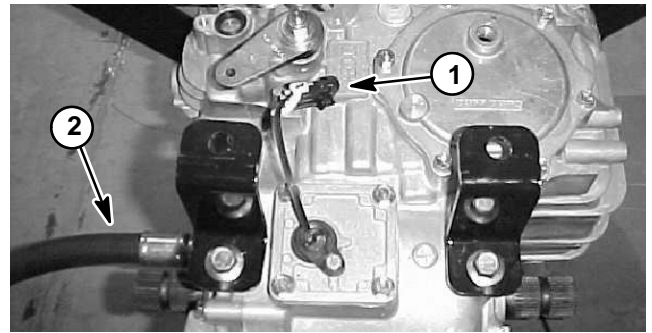
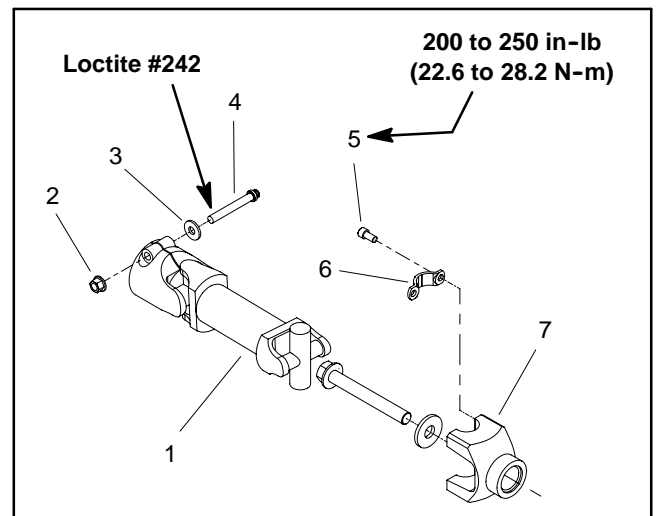

Figure 29
Figure 31
5. Unplug speed sensor connector from machine wire harness (Fig. 29).
8. Disconnect suction hose from transaxle (Fig. 29). Locate, remove and discard suction hose O-ring. Position suction hose away from transaxle.
10. Remove two (2) R-clamps that secure LH parking brake cable to front transaxle mount.
11. Remove the straps securing driveshaft bearing cross to the end yoke at both rear wheel hubs (Fig. 31).
5. Secure transaxle to machine by installing and tightening four (4) flange nuts onto cap screws.
- A. Tighten the strap bolts to secure driveshaft bearing cross to the end yoke at wheel hubs (Fig. 31). Torque bolts from **200 to 250 in-lb (22.6 to 28.2 N-m)**.
13. Plug speed sensor connector into wire harness (Fig. 29).